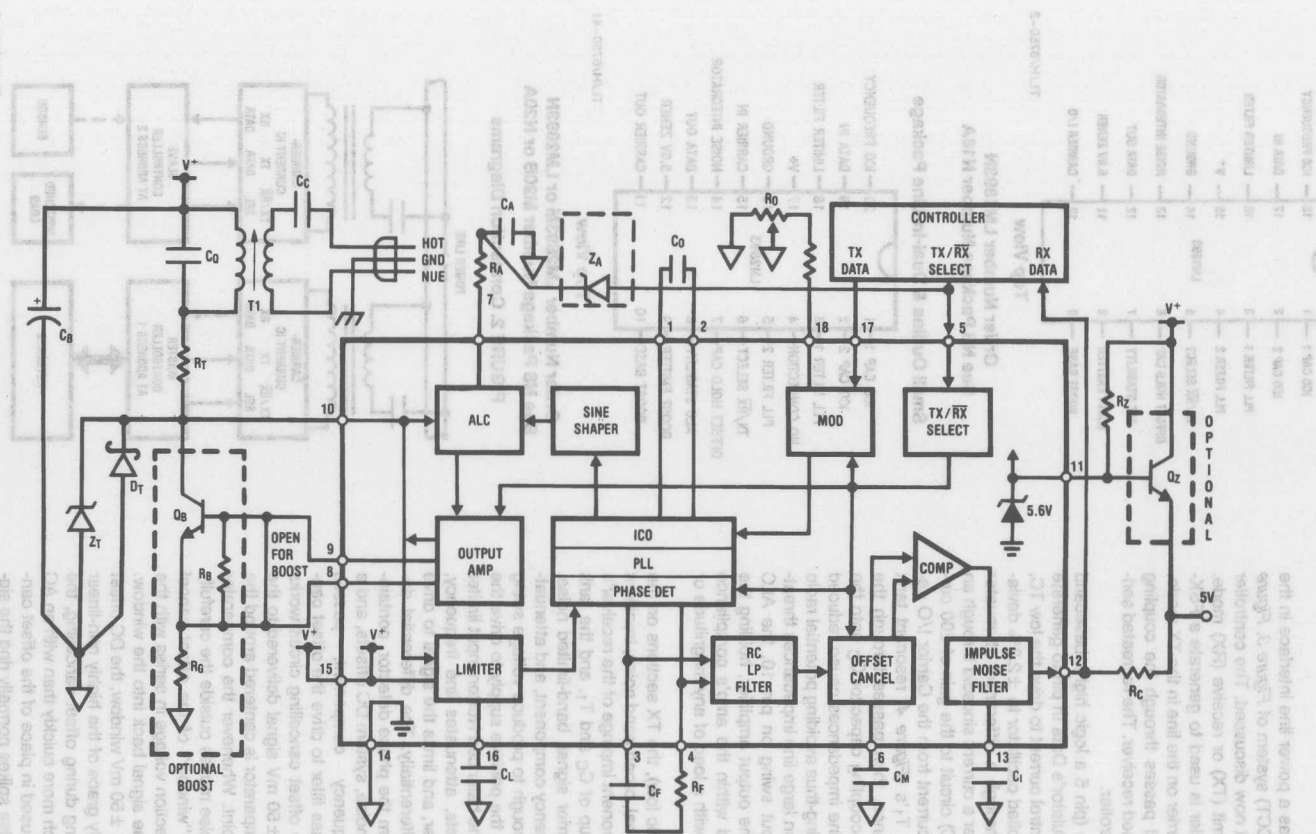

FIGURE 4. Block diagram of a CCT system with the boost and 5V supply options shown in dashed boxes
The BI-LINE™ chip serves as a power line interface in the carrier-current transceiver (CCT) system of Figure 3. Figure 4 shows the interface circuit now discussed. The controller may select either the transmit (TX) or receive (RX) mode. Serial data from the controller is used to generate a FSK-modulated 50 to 300 kHz carrier on the line in the TX mode. In the RX mode line signal passes through the coupling transformer into the PLL-based receiver. The recreated serial bit stream drives the controller.
With the IC in the TX mode (pin 5 a logic high), baseband data to 5 kHz drive the modulator's Data In pin to generate a switched 0.9781/1.0221 control current to drive the low TC, triangle-wave, current-controlled oscillator to $\pm 2.2\%$ deviation. The tri-wave passes through a differential attenuator and sine shaper which deliver a current sinusoid through an automatic level control (ALC) circuit to the gain of 200 current output amplifier. Drive current from the Carrier I/O develops a voltage swing on T_1 's (Figure 4) resonant tank proportional to line impedance, then passes through the step-down transformer and coupling capacitor C_C onto the line. Progressively smaller line impedances cause reduced signal swing, but never clipping—thus avoiding potential radio frequency interference. When large line impedances threaten to allow excessive output swing on pin 10, the ALC shunts current away from the output amplifier, holding the voltage swing constant and within the amp's compliance limit. The amplifier is stable with a load of any magnitude or phase angle.
FIGURE 5. A quick explanation of the external component function using the circuit of Figure 4. Values given are for V⁺ = 18 V, F_O = 125 kHz, f_{DATA} = 360 Baud (180 Hz), using a 115 V 60 Hz power line
Assuming the circuit of Figure 4 is used with something other than the nominal 125 kHz carrier frequency, 180 Hz data rate, 18V supply voltage, etcetera, the component values listed in Figure 5 will need changing. This section will help direct the CCT designer in finding the required component values with emphasis placed on look-up tables and charts. It is assumed that the designer has selected values for carrier center frequency, F_O; data rate, f_{DATA}; supply voltage, V⁺; power line voltage, V_L; and power line frequency, F_L. If one or more of those parameters is not defined, one may read the data sheet and make an educated guess.
To use the ultimate sensitivity of the device, fully 110 dB of 115 V, 60 Hz attenuation is required between the line and the limiter amplifier output. Using the circuit topology of *Figure 4*, the combined attenuation of the C_C/T_1 highpass, the tuned transformer, and the bandpass filter attenuation of the limiter amplifier give far more line rejection than the above-stated minimum. However, if some other CCT line coupling circuit is used, line rejection will become important to the system designer.
Receiver input power supply rejection (PSRR) and common-mode rejection (CMRR) are one-in-the-same using the supply-referenced signal input of *Figure 4*. Ripple swings both